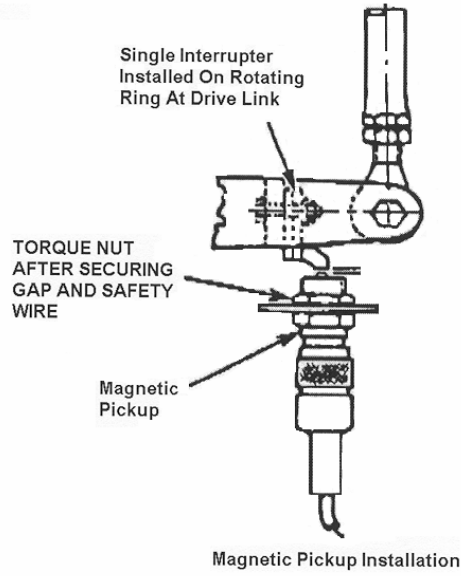
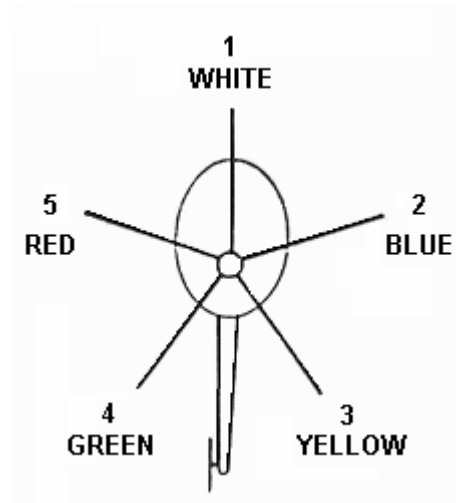

Figure 1
Figure 2
- The MDHI 500 Series helicopters are permanently fitted with a magnetic pickup bracket for installation of the Pickup. Install the Magnetic Pickup (Item 6) into the bracket. Rotate the main rotor until the interrupter and Pickup are aligned. Adjust the gap to 0.030-0.070" and secure Pickup. Safety wire jam nuts as required. (Figure 1) **The blade that is over the nose is now designated as blade #1. The following blades are labeled 2-5 in passing order.** (Figure 2)